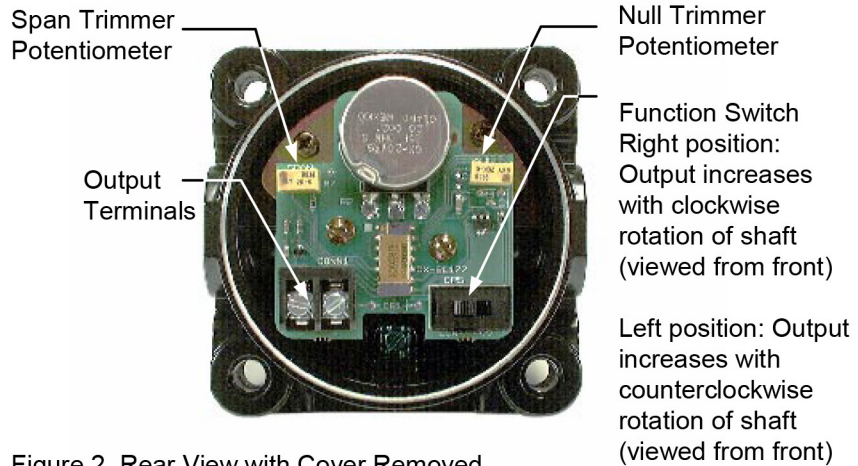

Figure 2. Rear View with Cover Removed
3. Adjust the null offset trimmer potentiometer (see figure 2) to generate 4 mA at this position. (Clockwise turn increases the output.)
5. Adjust the span trimmer potentiometer (see figure 2) until output is 20 mA. (Clockwise turn increases output.)